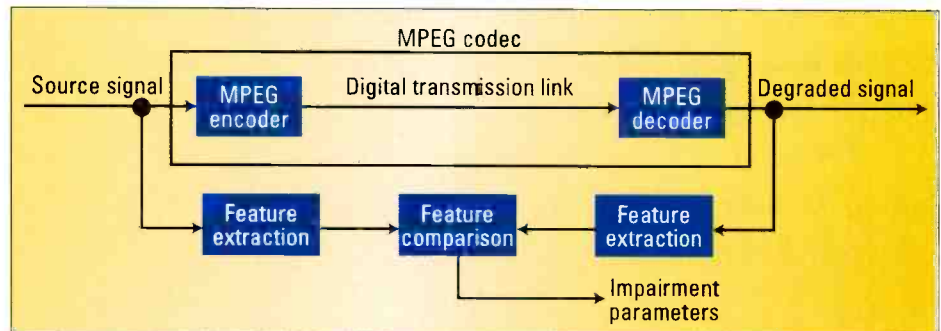

Figure 2. Feature extraction test setup
• *Feature extraction method:* As shown in Figure 2 on page 26, this approach extracts a reduced amount of data from the input signal and compares it with a similarly reduced amount of data extracted from the degraded signal obtained at the output of the MPEG codec. The test equipment compares the extracted “features” and generates an impairment measurement result. The input